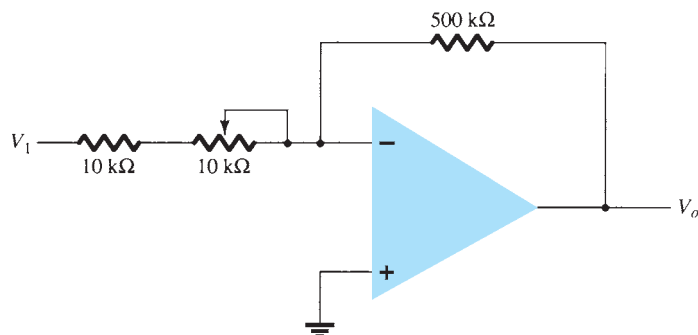

FIG. 10.63
2. What is the range of the voltage-gain adjustment in the circuit of Fig. 10.63?